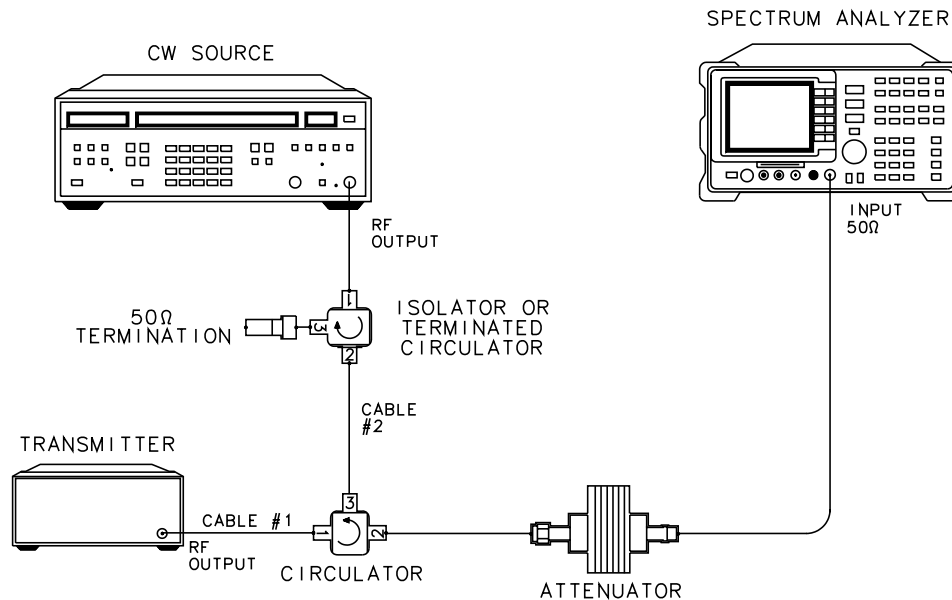

Figure 28 Test Setup for Intermodulation Attenuation - TX Band
- 9 Read the text and make the test setup connections described in the displayed text. Refer to Figure 28 on page 70 for the test setup.